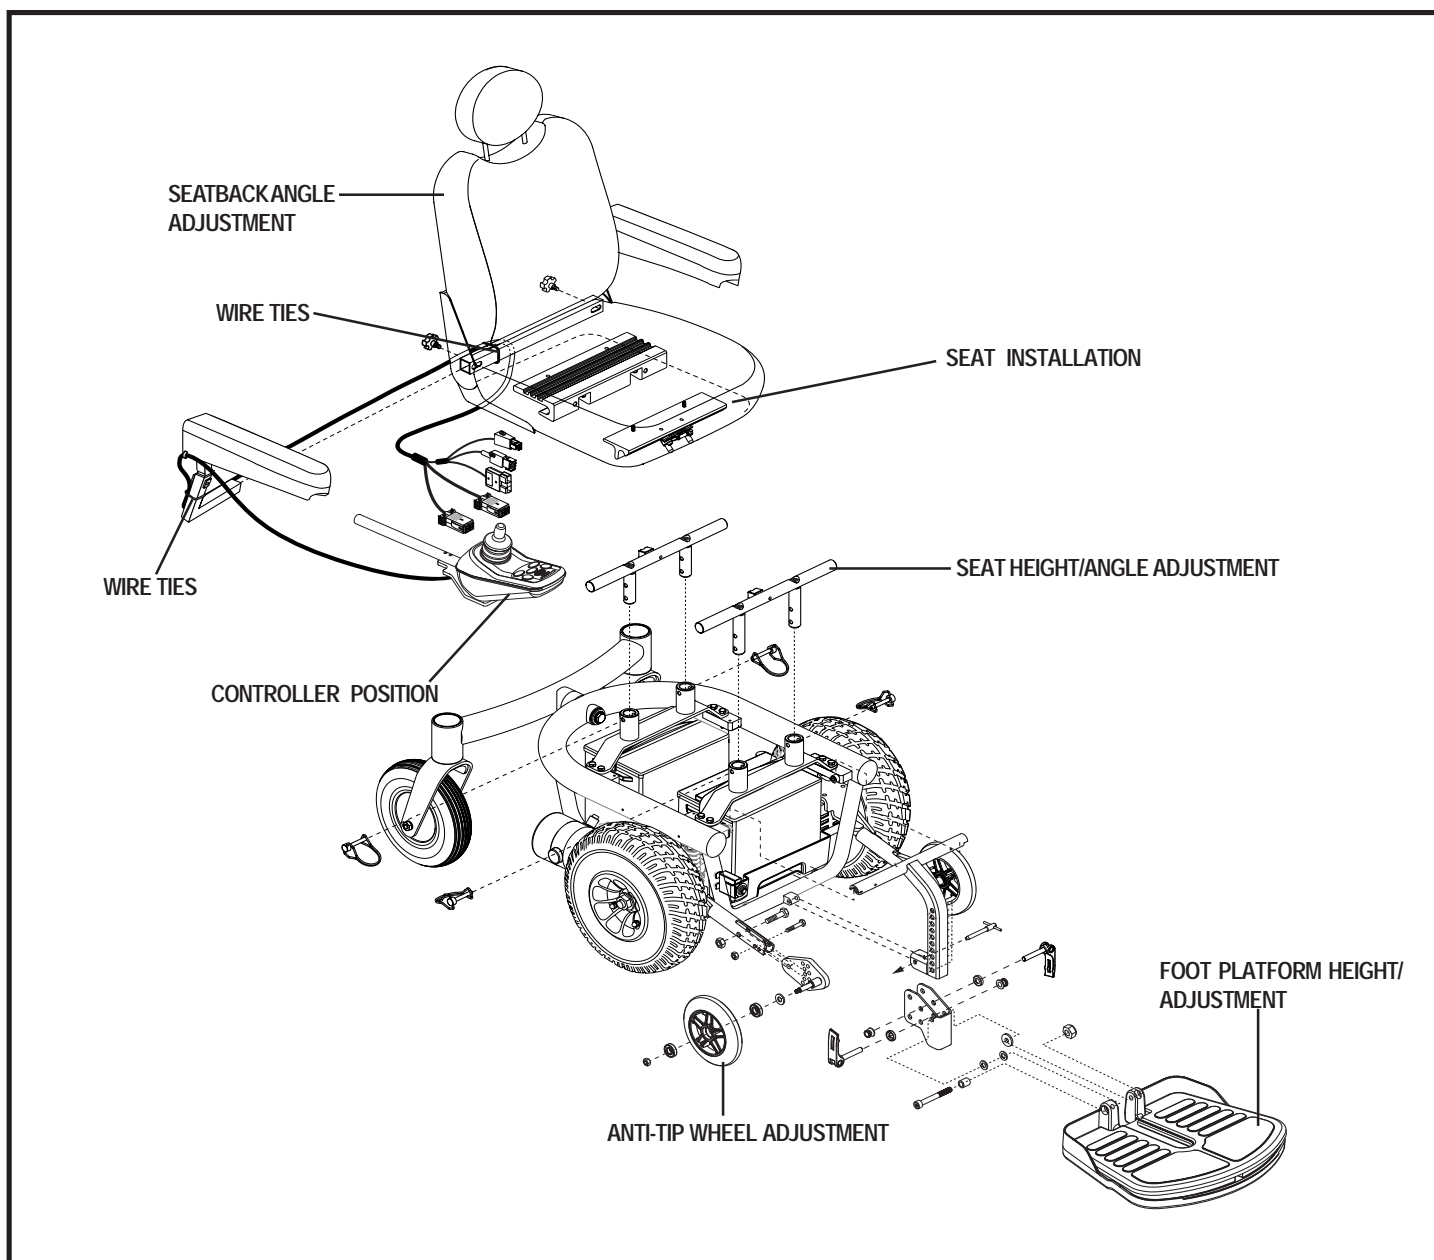

Figure 10. Quantum 1103 Ultra Series Assembly View
Your power chair may require some assembly either before initial use or after transportation. It may also require disassembly to make some comfort adjustments. Figure 10 details those parts of the power chair that are designed to be disassembled and assembled by an end user or by a qualified caregiver before using the product or making comfort adjustments.
7. Route the controller connector to the back of the power base and secure the controller cable to the armrest receiver with wire ties. See figure 10.